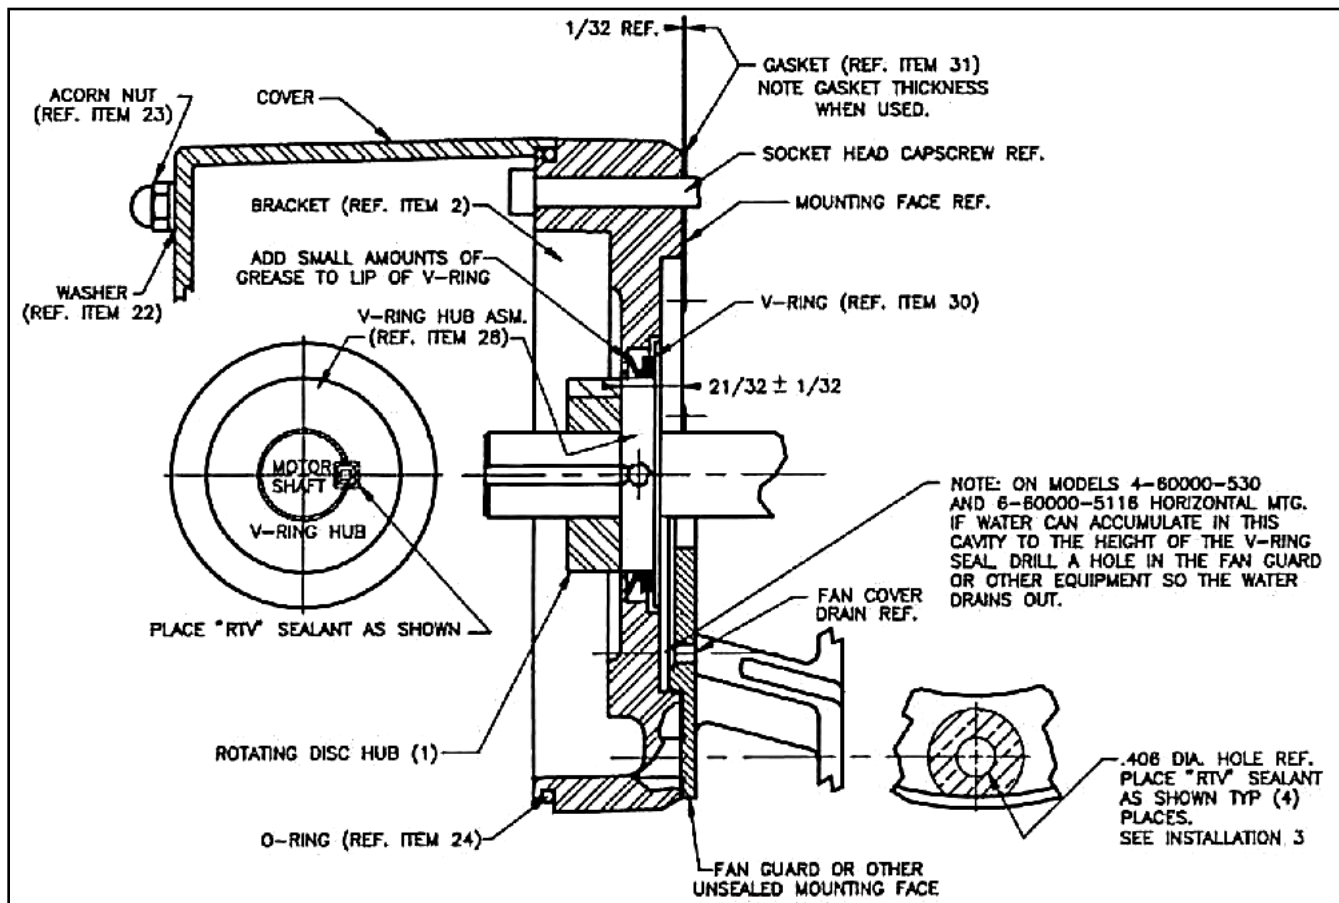

Figure 2
Numbers in parentheses refer to parts illustrated in Figs. 2, 4 and 10.
1. Place rotating disc hub (1), with key, onto motor shaft with part number facing away from motor to dimension shown in Fig. 2 ( $2\frac{1}{32} \pm \frac{1}{32}$ ). Measure from brake mounting face as shown.
1. Remove V-ring (30) from V-ring hub assembly (28).
2. Place V-ring hub assembly (28) onto motor shaft with part number facing away from motor to dimension shown in Fig. 2 ( $2\frac{1}{32} \pm \frac{1}{32}$ ).
4. Replace V-ring (30) onto V-ring hub assembly as shown in Fig. 2. Apply a small amount of grease to lip of V-ring.
5. Place rotating disc hub (1) with key if not already in place, onto motor shaft with part number facing away from motor to dimension shown in Fig. 2 ( $2\frac{1}{32} \pm \frac{1}{32}$ ). Rotating disc hub will butt against the V-ring hub as shown.
1. Remove acorn nuts (23), washers (22), and cover (20). Place brake on motor mounting face aligning hub splines into brake disc splines. Make sure gasket (31) is in place. Drain plug (25) to face down on horizontal models.
NOTE: for models 4-60000-530 and 6-60000-5116 only: If gasket (31) does not make contact around mounting face totally (360°), exclude gasket (31) and place RTV sealant around mounting bolt holes to approximately 1" dia. as shown in Fig. 2. Use Dow Corning #739 RTV only; other types may form acetic acid during curing if subjected to water or high humidity. This will cause premature failure of zinc plated parts.
You may have to add drain in fan guard or other equipment as shown in Fig. 2.